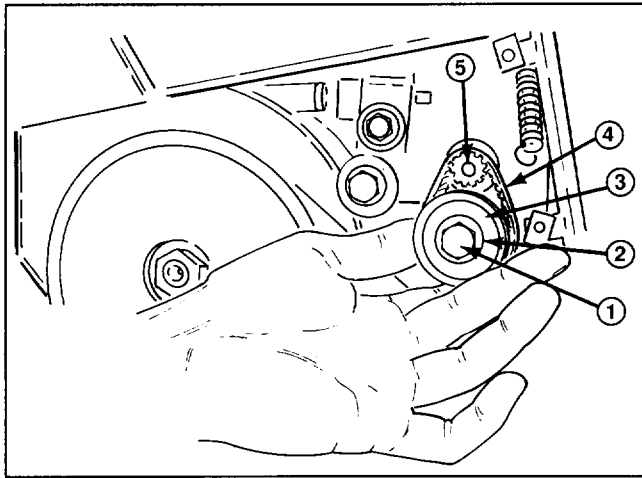

Figure 19
3. Remove bolt, (2) washers, and small pulley (Fig. 19). Remove and discard small belt.
4. Slide (2) washers onto bolt. Insert bolt through small pulley. Bolt must ride on bearings in small pulley.
6. Slide belt over motor shaft pulley (Fig. 19).